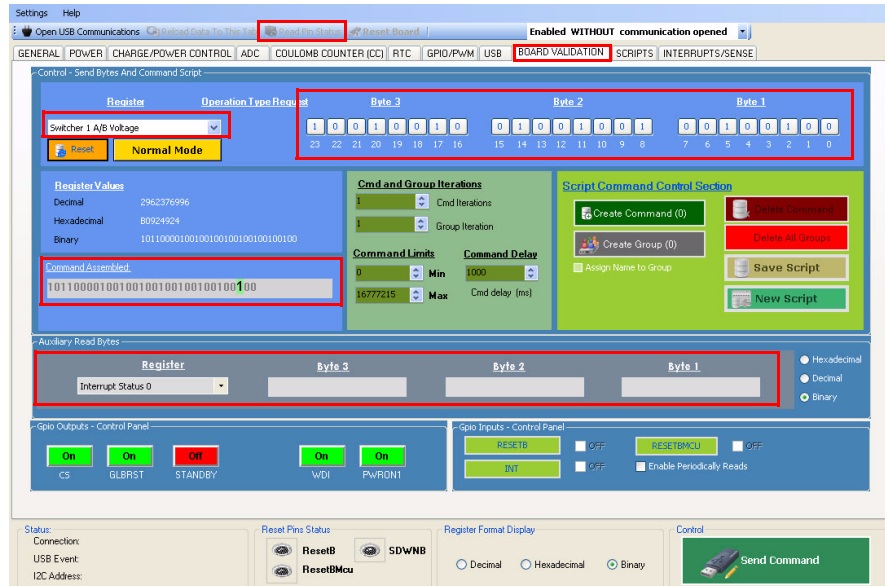

Figure 35. Board Validation Configuration Window
2. The **INT** pin status can be read in the bottom right section of the **Board Validation** tab (Figure 35). Its status can be refreshed by clicking the **Read Pin Status** button on the very top of the window.
1. The **Register** list as shown in Figure 35 contains a list of all the MC34708 registers.